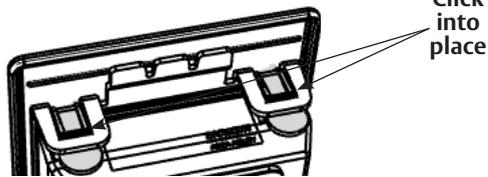

Fig. 10B
- b. Ensure proper alignment of board-to-board connectors while pivoting controller toward door until two tabs on top click securely into place on mounting plate. (Figure 10B)